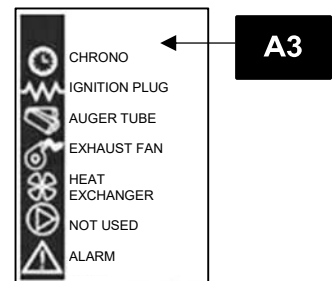

Figure 1
- (A3) STATUS p. 42 F-2 and p. 58 figure 1
Figure 1 p. 58 describes the meaning of the status indicators appearing on the display left side.
Programming: When the LED is lighted, it means that the corresponding component is active p. 58 figure 1